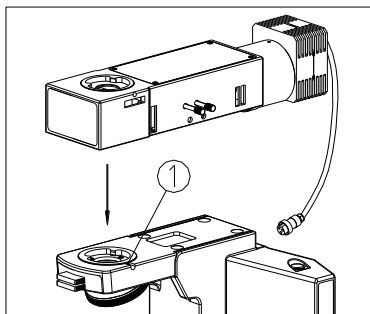

Fig.12
- (1) Loosen the lock screw ① of the Epi-Illuminator fully. (See Fig. 12)
- (2) From a little right position of the rounded hole center on the microscope body, insert the coattail interface on the bottom of epi-illuminator into the hole, with a little left inclined, and then screw down the lock screw ①.